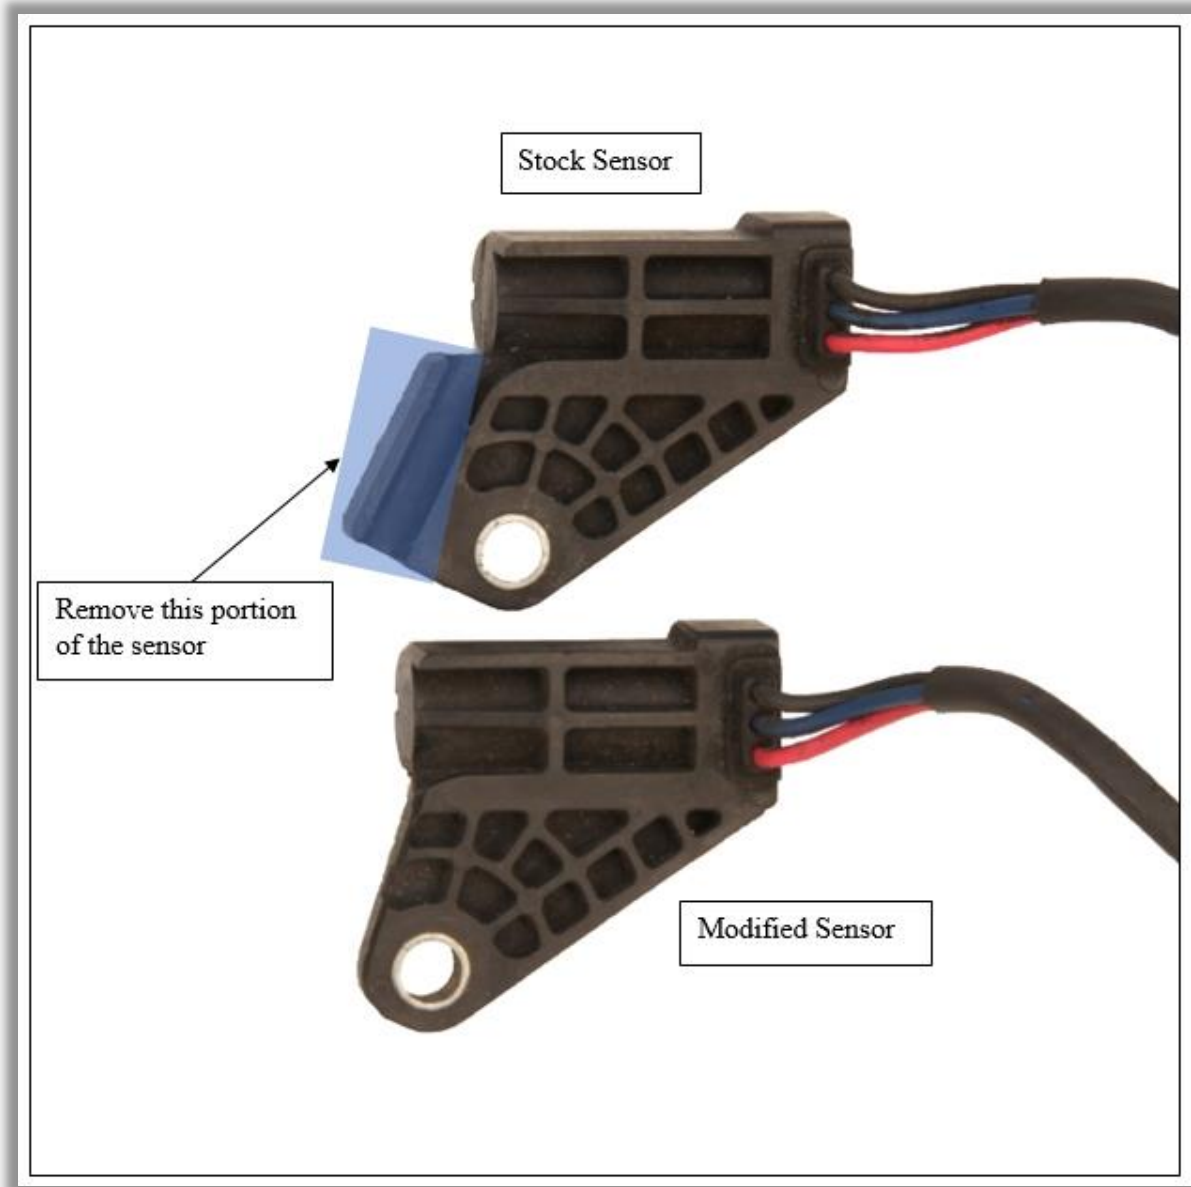

Figure 2
- Remove the portion of the stock sensor as shown in figure 2